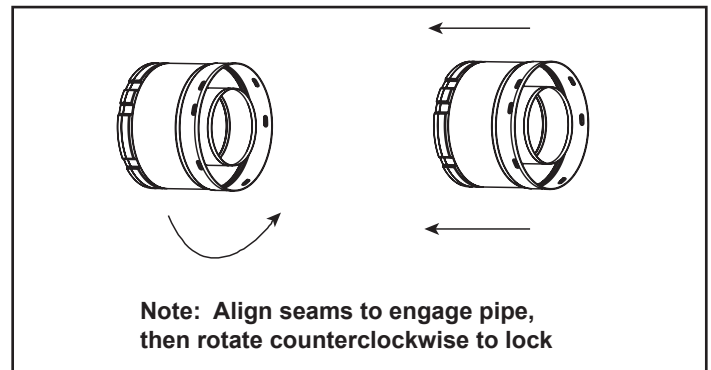

Figure 7.2 - Adding Venting Components
- Align the seam of the pipe and seam of collar to allow engagement. Rotate the vent component to lock into place. Use this procedure for all vent components, Figure 7.2.